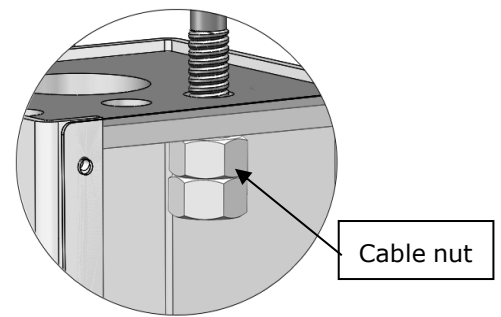

Fig. 47
1. Adjust synchronous cable (See Fig. 47)